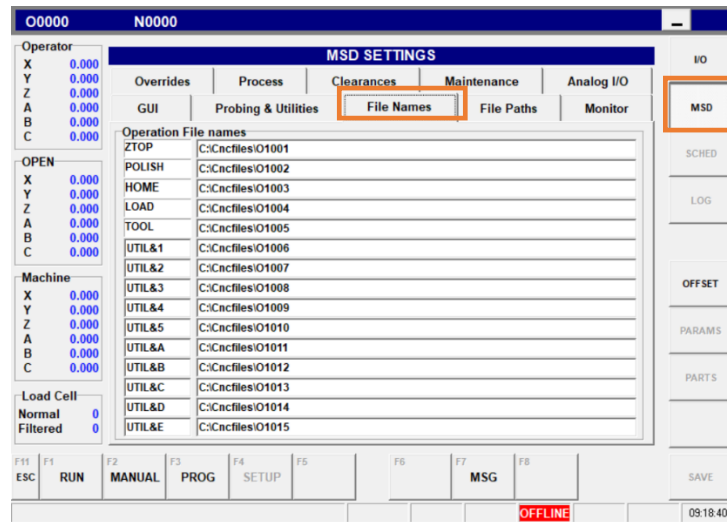

Figure 32 - Setting up a utilities program
10. Press the “MSD” button. See (Figure 32 - Setting up a utilities program).
11. Select “File Names” tab page. See (Figure 32 - Setting up a utilities program).